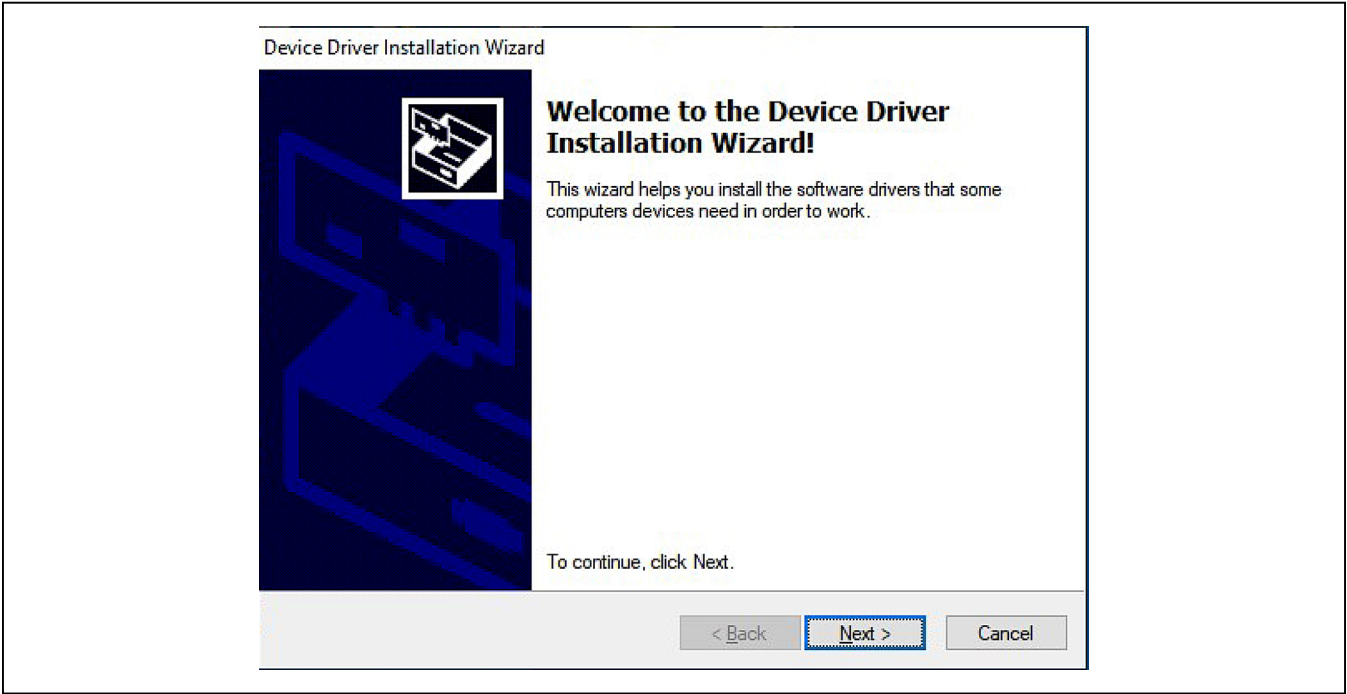
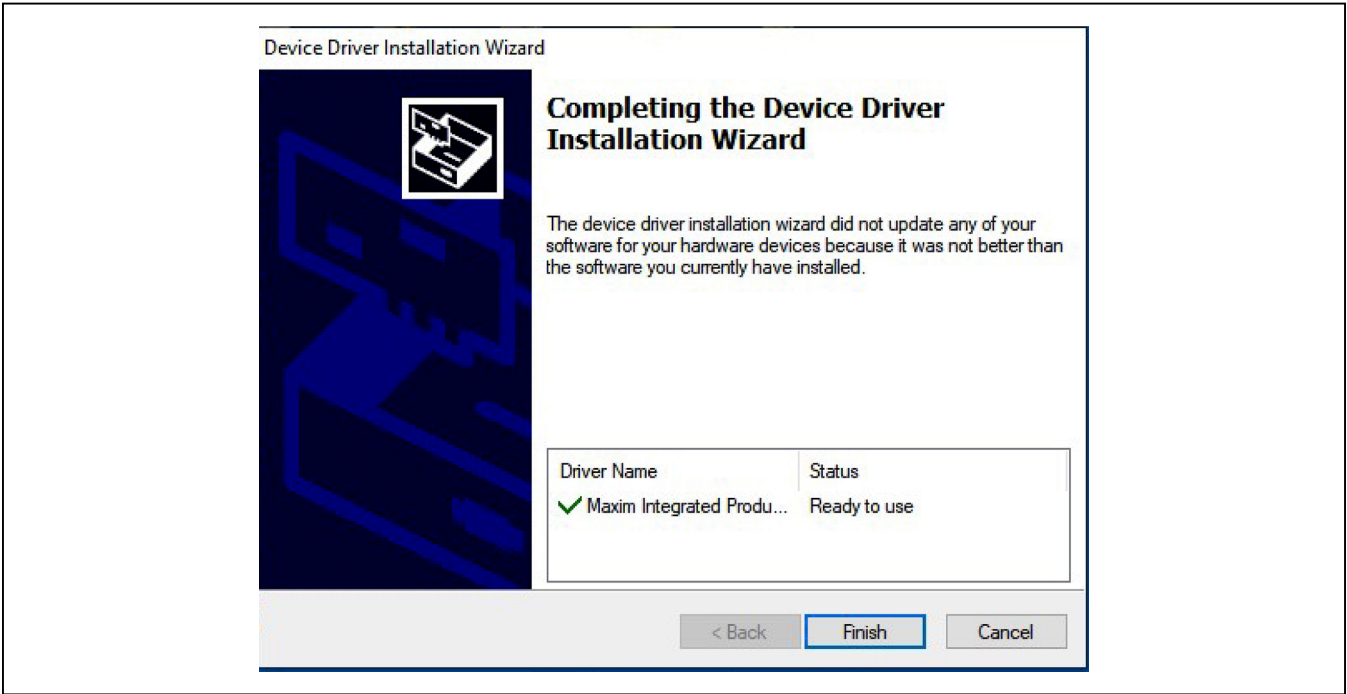

Figure 3. DS9482P# Driver Installation
Figure 4. Finish DS9482P# Drivers Installation
- 4) Follow the instructions in the wizard and click **Next** to install the EV kit software and required drivers (Figure 3 and Figure 4).